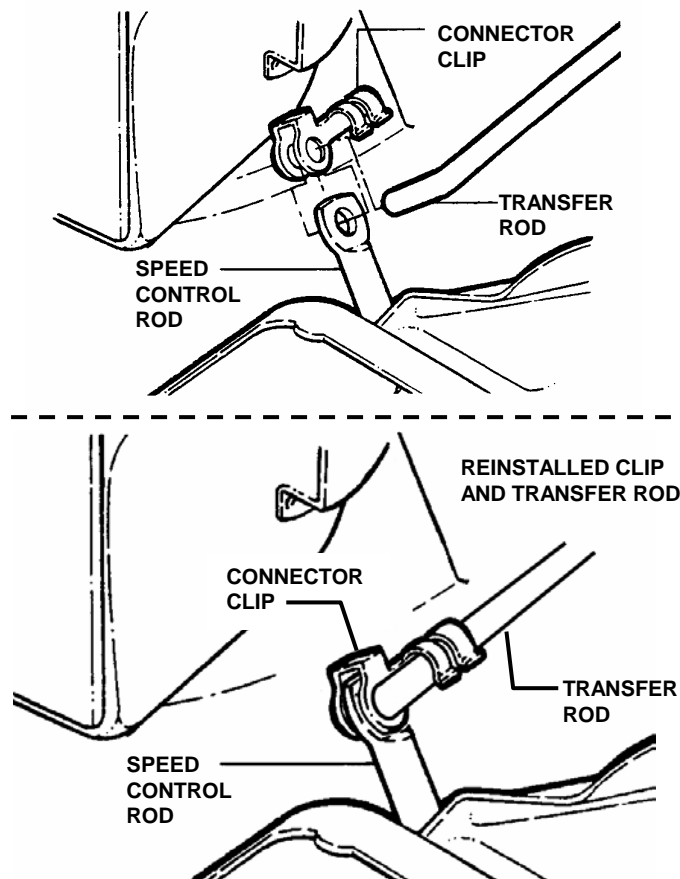

FIGURE 4.10
1. Using a small flat blade screwdriver, free the clip from the transfer rod. Then remove the transfer rod from the clip and the speed control rod. See Figure 4.10.